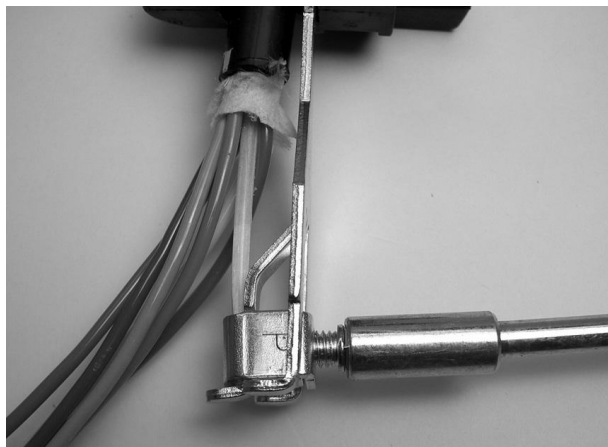

Figure 4 – Attach the center strength member to the strength member bracket.
- 4.7** Orient the buffer tubes away from the center strength member and insert the center strength member into the strength member lug. Tighten the screw to fasten the center strength member between the strength member lug and bracket. **Note:** The screw should push against the strength member bracket – not against the strength member itself (Figure 4).